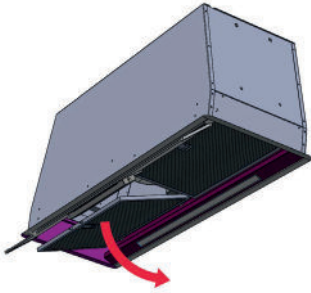

FIG.4
- › Particular care must be made when handling the grease filter panel. It can be removed by pushing its handle toward the back-side of the cooker hood and turning the filter downwards so to unfasten it from its slot (Fig.4). To insert the filter just perform the opposite operation.
- › When the appliance is used in recirculating mode, the active charcoal filter (Fig.12) needs to be periodically replaced. The charcoal filter can be removed by removing the grease filter first (Fig.4), and by pulling its special plastic tongue until it is unfastened from its slot. Reinsert the charcoal filter by performing the opposite operation.